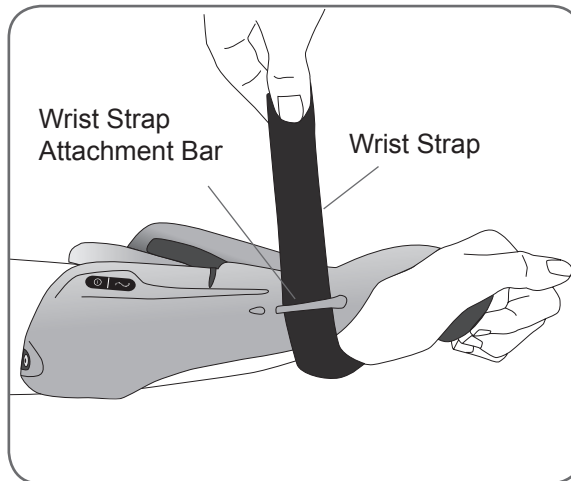

Figure 10-1: Unfastening the wrist strap.
2. Carefully unfasten the wrist strap and slide it away from the wrist strap attachment bar. See Figure 10-1.